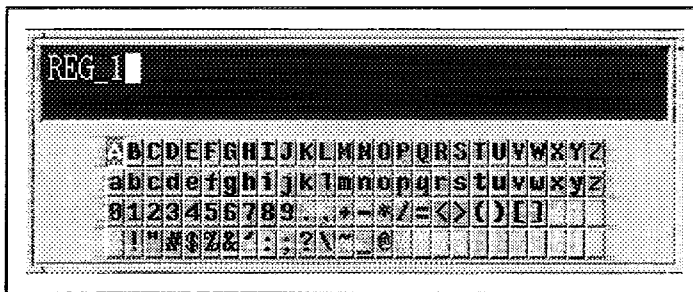

Figure 7-6 Label Window Display
- ① Press the **[SAVE]** to call the save menu. (Refer to section A.4.)
- ② Press the **{SAVE REGISTER}** to call the save register menu.
- ③ Press the **{RENAME REG}** to display the label window and calls the name editing menu.
- ④ Name editing menu
{EDIT NAME} : Displays the label window (Figure 7-6) and calls the character editing menu. (See step ⑤.)
- ② Press the **{STORE FILE}** to call the store file menu.
- ③ Press the **{NAME↑}** , **{NAME↓}** to select a desired file name.
- ④ Press the **{EDIT NAME}** to display the label window (Figure 7-6) and calls the character editing menu.
- ⑤ Character menu